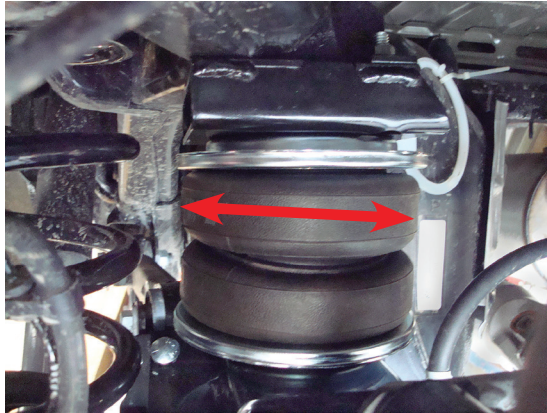

fig. D.22
10. Adjust the upper air spring assembly so it is as close to perpendicular as possible to the upper and lower bracket by moving it within the slot in the upper bracket (Fig. D.22).